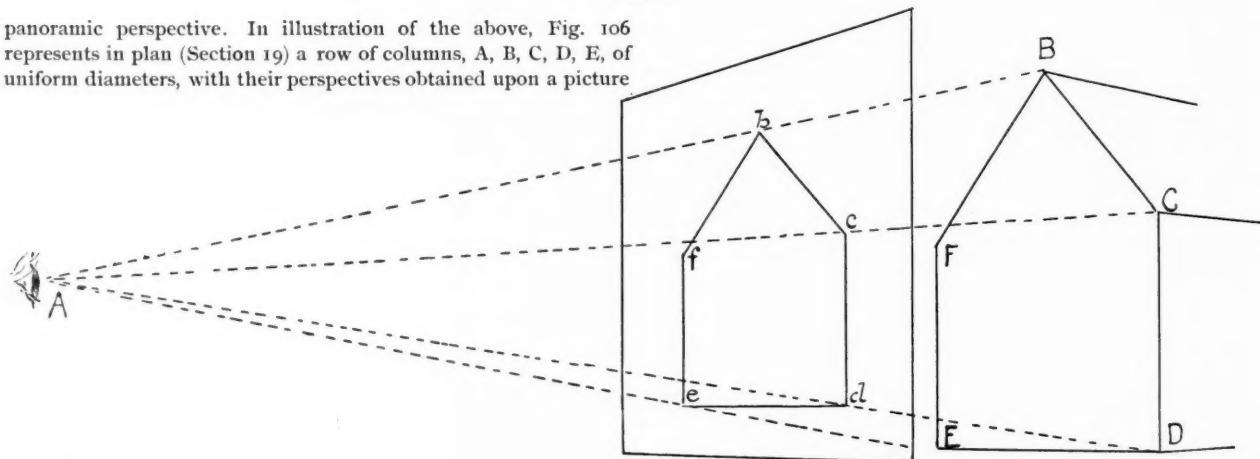

FIG. 107.
90. Fig. 107 represents a picture plane parallel with the end of a house, all whose lines therefore are parallel with the picture